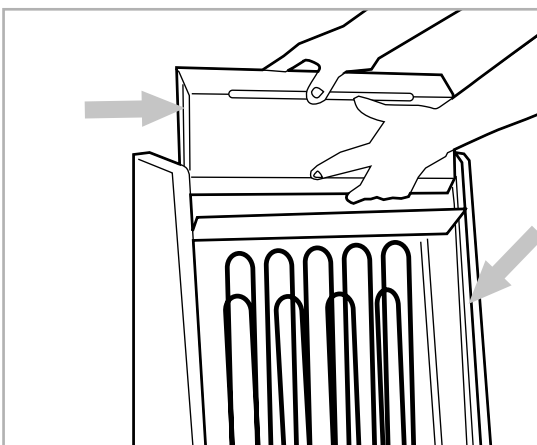

Figure 3.4
3) Install the heater blocks by aligning the grooves on their sides with the rails on the inside of the heater sides and lowering the blocks carefully into place (see Figure 3.4).